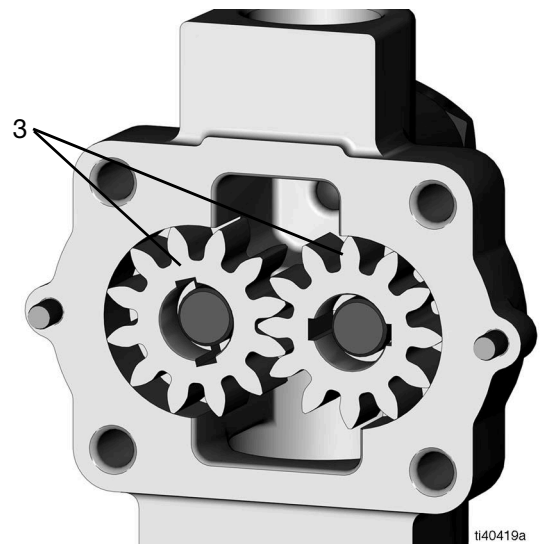

FIG. 11
10. Remove both of the pump gears (3) (FIG. 11).
11. Inspect the pump cavity and pump gears (3) for damage or excessive wear. If there is damage or wear, replace the pump housing assembly. If neither is present, clean the pump cavity and gears (3) (FIG. 11).
1. Place the pump gears (3) into the pump cavity, making sure that they spin freely (see FIG. 11).